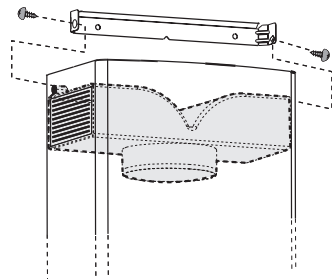

Fig. 2
- Fix the deflector using 2 screws $\varnothing 2,9 \times 13$ mm. **Fig. 2**.